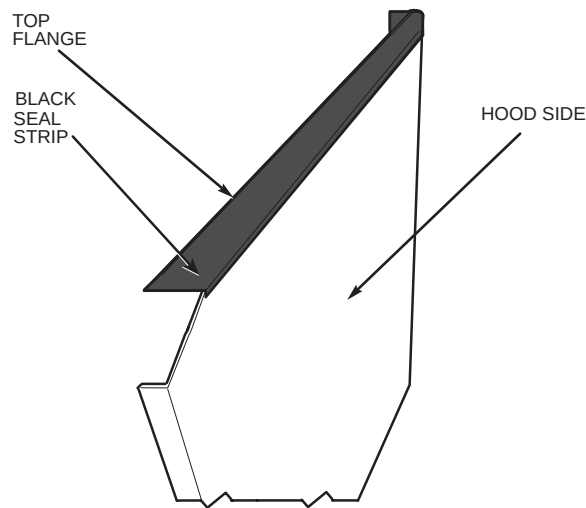

Fig. 25 — Adding Seal Strip to Top of Hood Sides
1. Apply black seal strip (provided in package) to outside top-edge of hood sides. Wrap seal strip over edge to cover top flange (6 hood sides). Make sure seal strip covers screw holes. Allow strip to overhang 3 mm ($\frac{1}{8}$ -in.) past the end opposite the mounting flange. See Fig. 25.